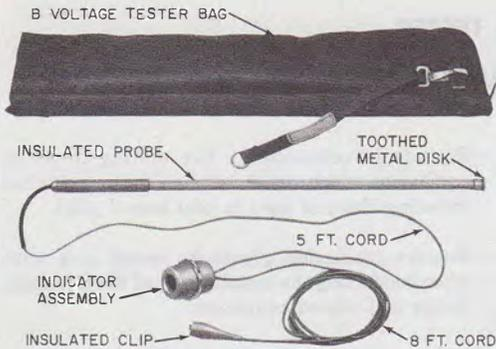

Fig. 1—B-Voltage Tester
**2.01 *B-Voltage Tester:*** The B-Voltage Tester (Fig. 1) is designed to detect the presence of voltages from 60 to 7200 volts. It consists of an indicator assembly with a small neon globe unit and reflector, and a plastic-insulated probe. The probe is equipped with a toothed metal disk on one end for making contact to a conductor, conduit, street light fixture, or any other object to be tested. The probe is designed to limit the amount of current which can pass through the device.